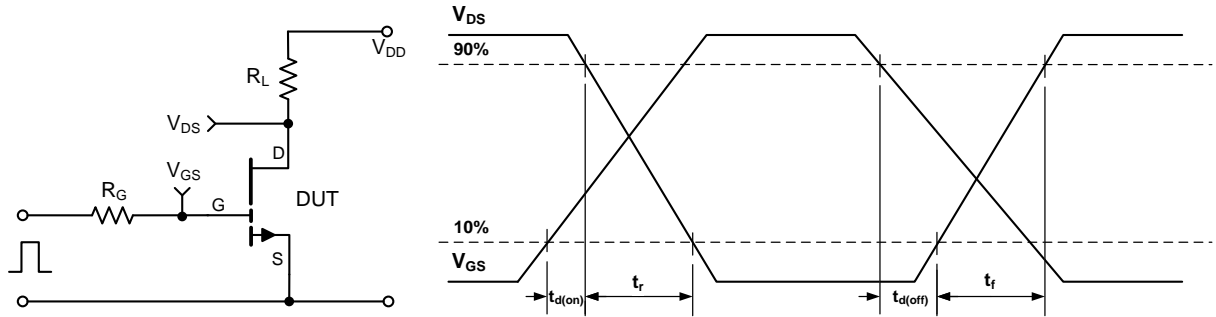
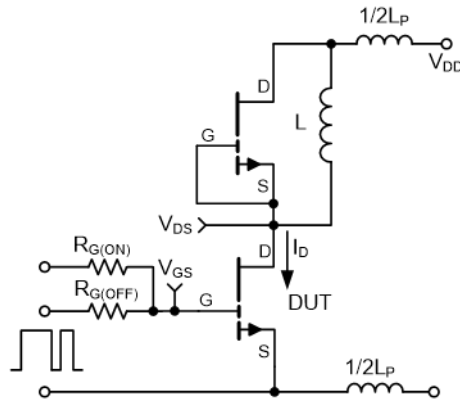

Figure 12: GS66508B switching time test circuit and waveforms
Figure 13: GS66508B Switching Loss Test Circuit
(6) See Figure 12 for timing test circuit diagram and definition waveforms
(7) L_p = parasitic inductance
(8) See Figure 13 for switching test circuit